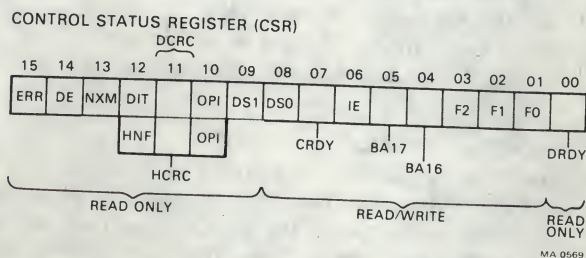

Figure 6 Control/Status Register
**Control/Status Register (CSR)** — The control/status register (Figure 6) is a 16-bit, word-addressable register with a standard address of 174400. Bits 1 through 9 can be read or written; the other bits can only be read. The bit functions are described in Table 3.